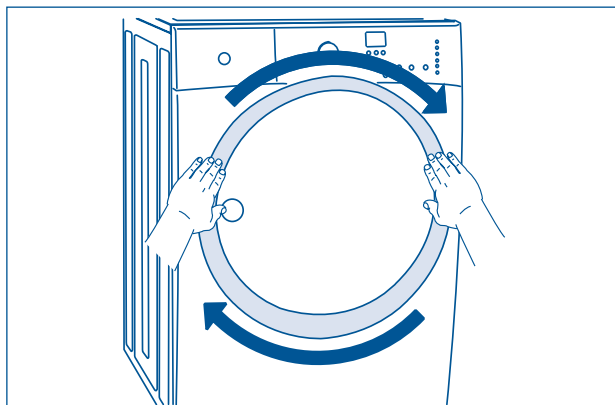

Figure 2-46.
3. Insert the trim ring in the slots and rotate it clockwise approximately  $\frac{3}{4}$ ". (See Figure 2-46)